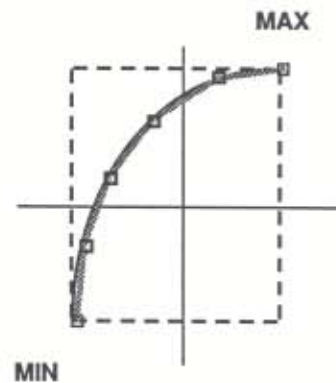
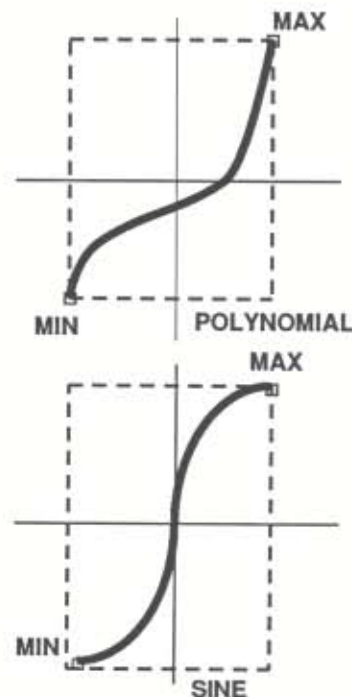
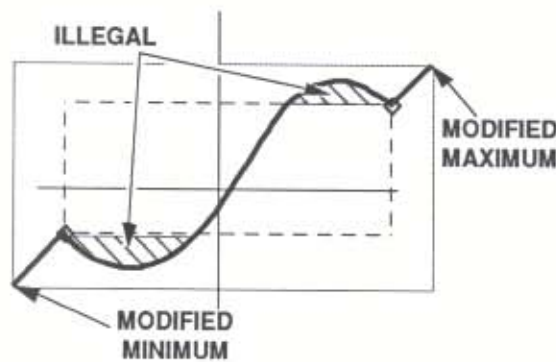

Figure A1. Approximating an Application Curve with Linear Segments
Figure A2. Sample Application Curves
Figure A3. Modifying an "illegal" Application Curve
Up to twenty-four breakpoints can be specified when defining a "curve". Figure A1 illustrates the technique. Figure A2 shows some of the common applications in which the SCMPRG's transfer function capability can be used.
Figure A3 shows a modified "illegal" curve.
- Any non-linear function must be totally enclosed by a rectangular area defined by the programmed Minimum and Maximum values. Figure A1 illustrates. Figure A3 shows how the Minimum and Maximum values can be modified to compensate for an "illegal" function.